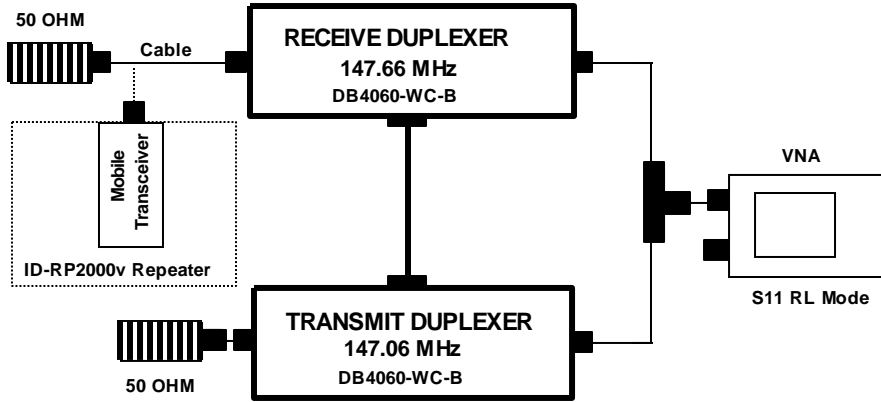

Figure 2
**Icom ID-RP2000v** - After this repeater was installed, amateur's complained that they could hear the repeater, but was having problems reaching the machine. My first test was to determine receive duplexer's insertion loss. See Figure 2. Connecting a VNA to the duplexer's antenna port and measured the return loss (RL) with the receiver's cable connected to a 50Ω load. The RL measured 27 dB which equals to a match efficiency of 99.8%. The 50Ω load was disconnected from the receiver cable and the receiver was attached to the duplexer cable. The RL measured 5.7 dB which equals to a match efficiency of 73.08%. The receiver's 25.53Ω impedance caused a 46.08% loss in the receive efficiency. Note: This type of test only checks the duplexer's insertion loss and receiver characteristics.